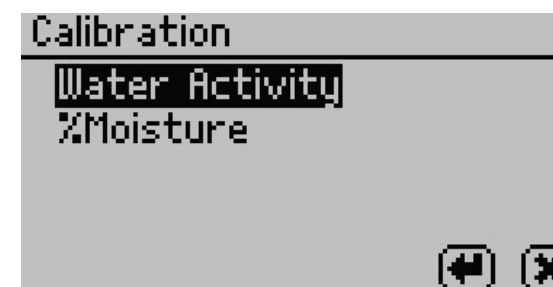

Figure 27 Calibration option
- **Calibration.** Select to start the calibration process (Section 4.1) for water activity or moisture content (Figure 27). Resetting factory defaults is described in Section 2.5.4.